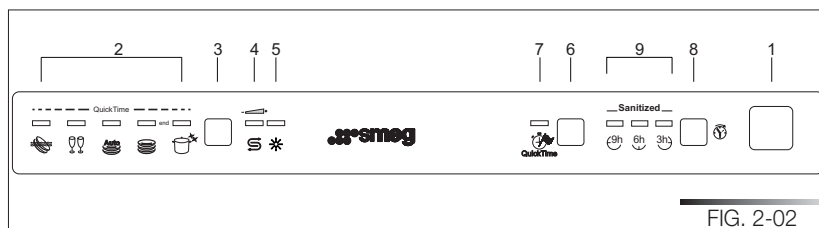

FIG. 2-02
The dishwasher is equipped with a control panel (see fig. 2-02) which is used to program the appliance and switch it on and off.
Press the on/off button (ref. 1 fig. 2-02) to start the dishwasher. Then wait for one of the **program indicator lights** to turn on (ref. 2 fig. 2-02).
- Press the **program selection button** (ref. 3 fig. 2-02) several times until the indicator light corresponding to the required program turns on (ref. 2 fig. 2-02);
- To cancel the current program, open the door and press and hold down the **program selection** button (ref. 3 fig. 2-02) for a few seconds until the indicator lights of the fourth and fifth programs turn on (ref. pr. 4, pr. 5 fig. 2-03).
At the end of the program, the dishwasher emits a short beep and the **indicator lights of the fourth and fifth program** (ref. pr. 4, pr. 5 fig. 2-04) flash. Turn off the appliance by opening the door and pressing the **on/off button** (ref. 1 fig. 2-02).